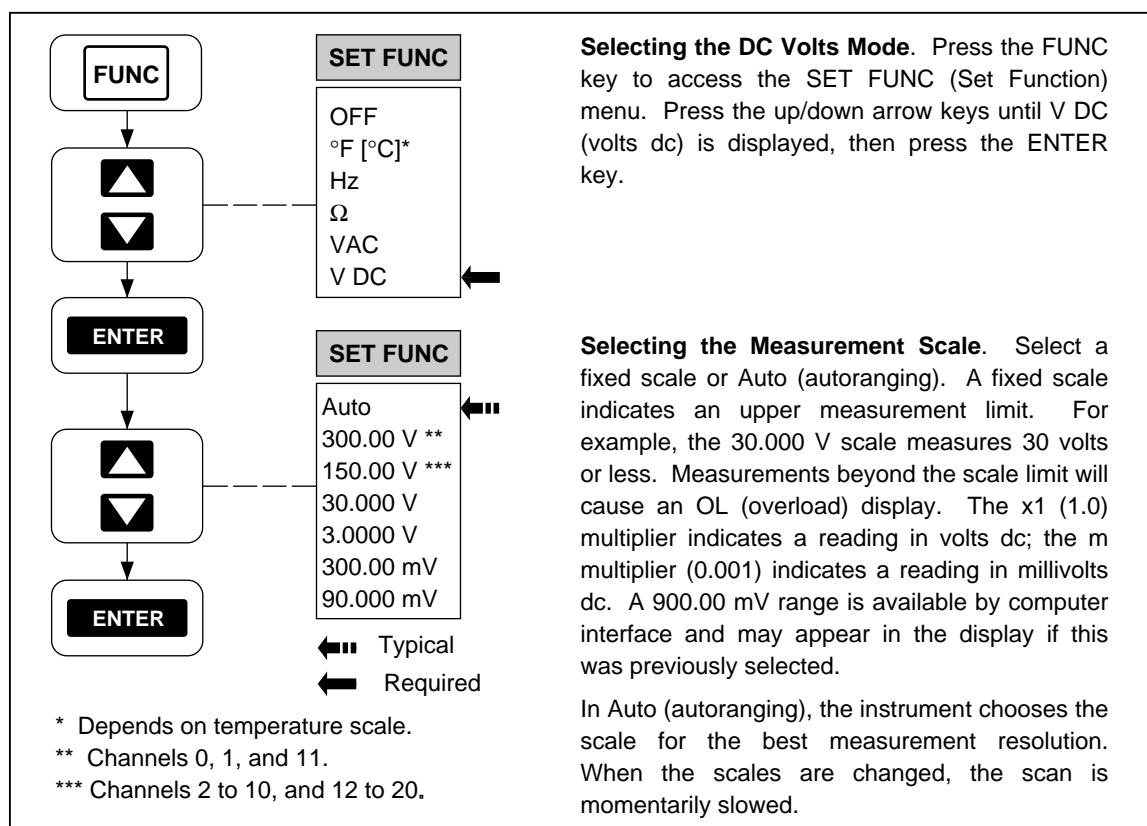
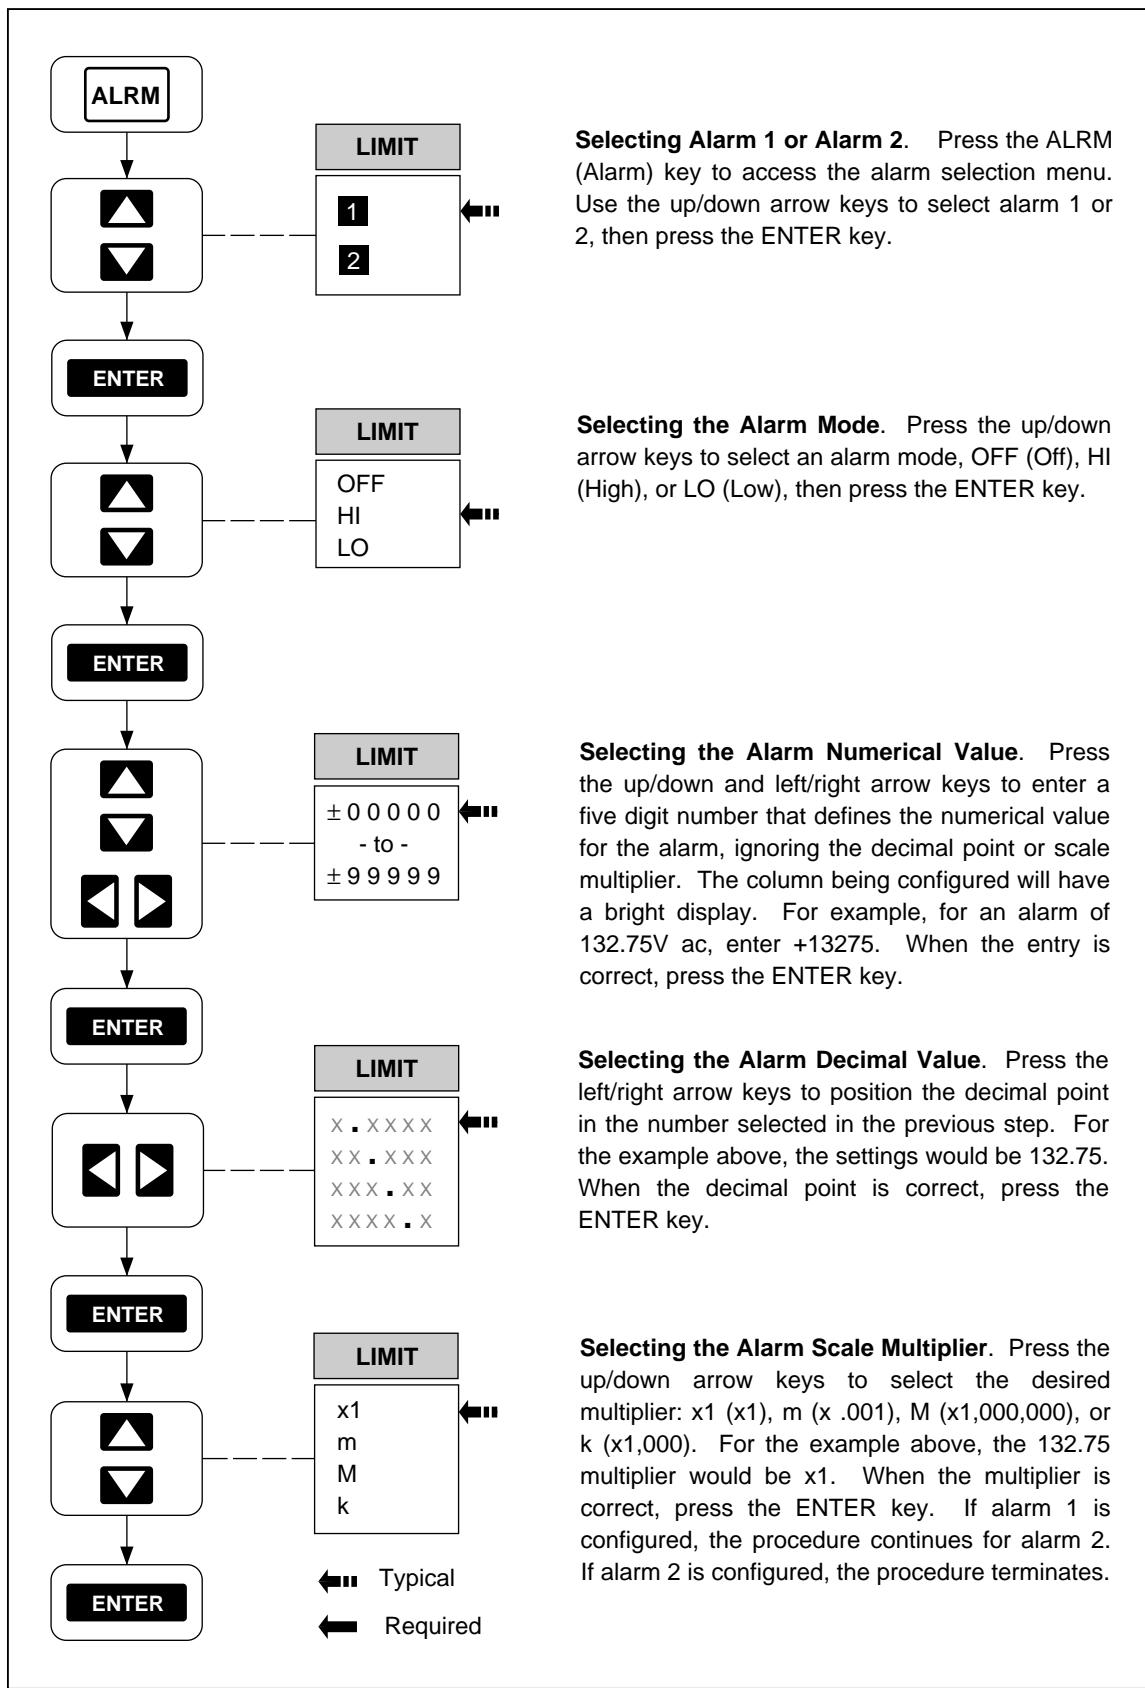

Figure 2-4. Configuring a Channel to Measure DC Volts
Figure 2-13. Setting the Alarms
- Configuring a Channel to Measure DC Volts (Figure 2-4)
Perform the procedure in Figure 2-4 to configure a channel for measuring dc volts. In preparation, the instrument must be in the inactive mode (not scanning or monitoring) and the desired channel must be selected (see Figure 2-3). To exit at any time (changes not saved), press the **CANCL** key.
- Setting the Alarms [Default - Alarms off] (Figures 2-13)
Perform the procedure in Figure 2-13 to set alarm limits for any configured channel. In preparation, the instrument must be in the inactive mode (not scanning or monitoring) and the desired channel must be configured with a measurement function (see Figures 2-4 to 2-9) and selected (see Figure 2-3). To exit at any time, press the CANCEL key; however, any alarm parameters previously entered will remain. Two alarm limits, alarm 1 and alarm 2, can be defined for each channel. If applied to a channel with Mx+B scaling, the alarm is based on the scaled values. An alarm occurs when the measured value on the channel moves above the HI (High) or below the LO (Low) value. Alarms can start autoprinting (Figure 5-3), start scanning with the Monitor-Alarm trigger option (Figure 2-19), or trigger other functions via the rear panel digital outputs. In the inactive mode, any selected channel that is programmed with alarm limits will display LIMIT plus 1 and/or 2 to show which alarms have been set. In the different operating modes, the front panel will provide an indication of a channel in an alarm condition. Each is discussed below.